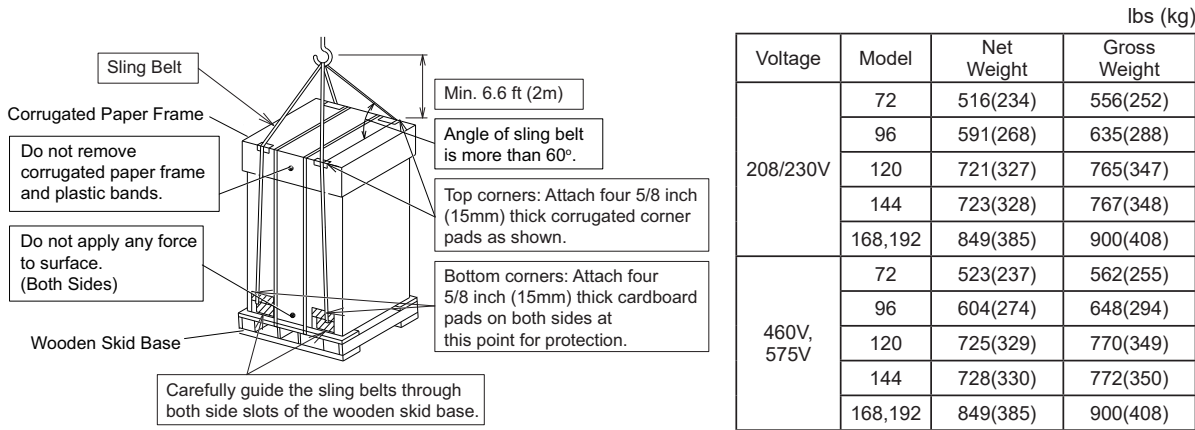

Figure 5.1 Hanging Unit on Wooden Skid Base for Transportation
- (1) Suspend the unit (with wooden skid base) in its packing with two sling belts as shown in Figure 5.1.
- (2) Do not use banding wire.
- (3) Ensure that the unit is balanced.
- (4) Ensure safety while hoisting the unit gently to prevent the unit from tipping over.